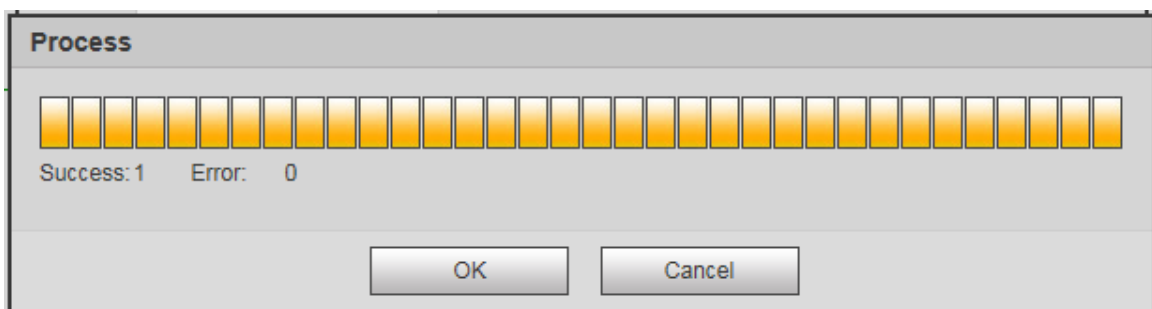

Figure 5-89
4. Click OK and system displays the Progress interface. See Figure 5-89.